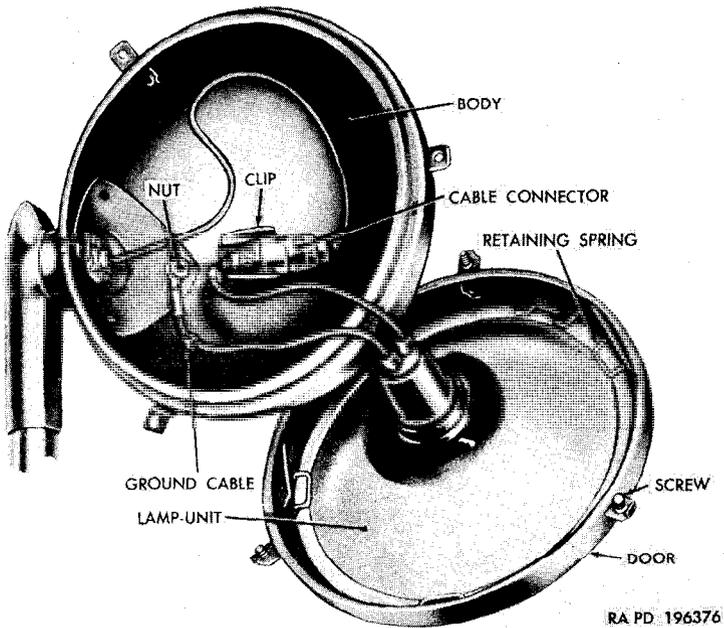

Figure 143. Spotlight lamp-unit (ambulance truck M43 and telephone maintenance truck V41).
d. Replace Lamp-Unit in Spotlight (Ambulance Truck M43 or Telephone Maintenance Truck V-41) (fig. 143).